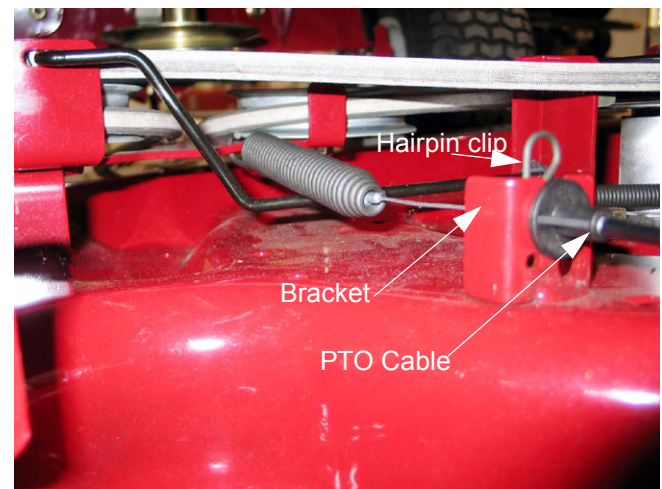

Figure 2.6
- 2.6. Working from the right side of the tractor, remove the hairpin clip that secures the PTO cable housing to the bracket on the deck. Separate the cable from the bracket. See Figure 2.6.